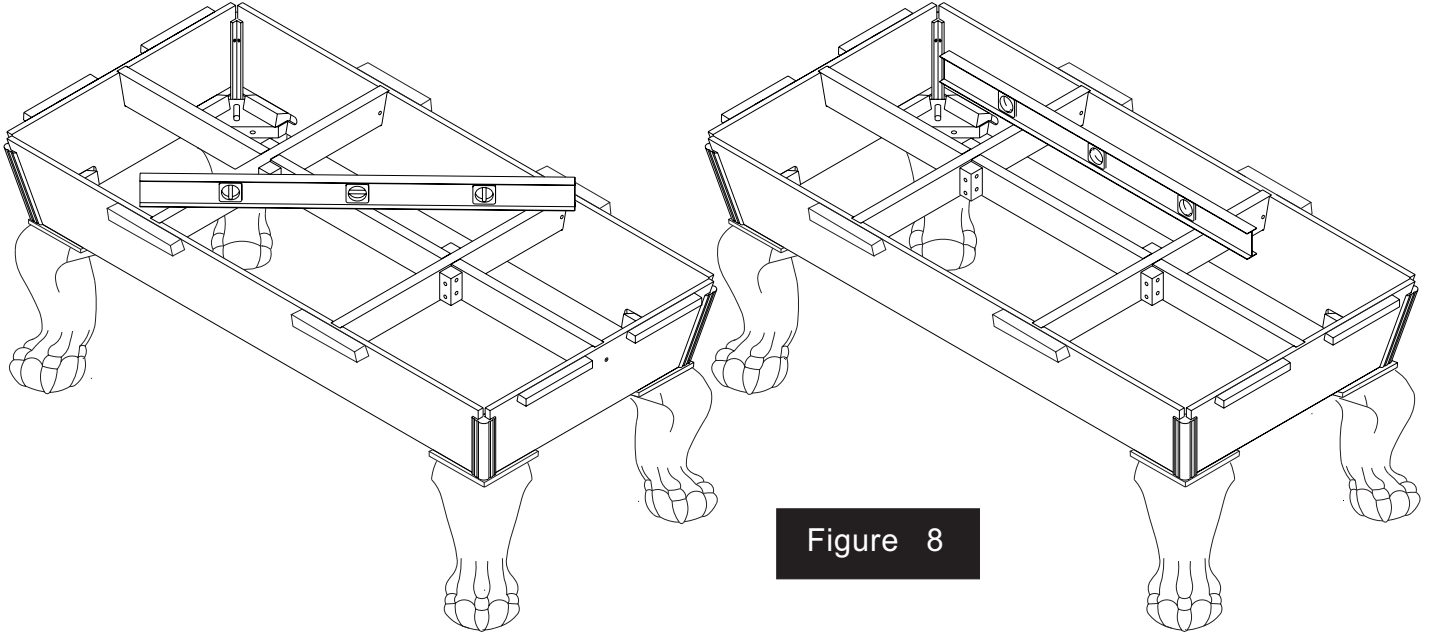

Figure 8
13. Determine the highest corner of the frame by placing the level in two ways shown in Figure 8.